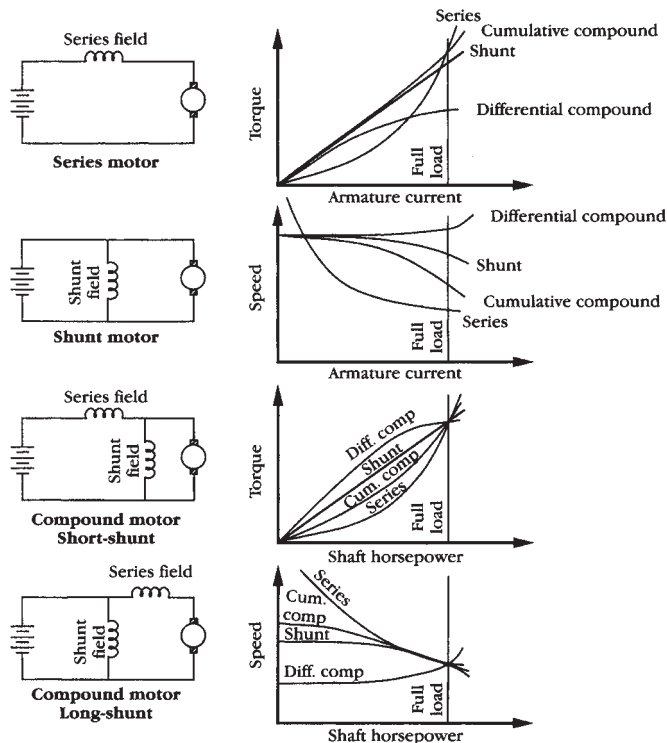

FIGURE 6-3 Summary of DC motor types—windings and characteristics.
The last three motor types are just variations of the first three, fabricated with different construction techniques. The compound motor is a combination of the series and shunt motors. For the first three motor types we'll look at the circuit showing how the motor circuit field windings are connected, and then look at the characteristics of the torque and speed versus armature current and shaft horsepower curves that describe their operation (Figure 6-3).
The most well-known of the DC motors, and the one which comes to mind for traction applications (like propelling EVs), is the series DC motor. It's so named because its field winding is connected in series with the armature (Figure 6-3). Because the same current
This shows that in a series motor, torque varies with the square of the current—a fact substantiated by Figure 6-3's actual torque versus armature current graph. The graph is actually a little misleading because at startup there is no counter electromotive force (EMF) to impede the flow of current in the armature of a series motor, and startup torque can be enormous; with no current limiting, you can start up at torque values far to the right of the full load line for a series motor. In actual use, the armature reaction and magnetic saturation of the series motor at high currents sets upper limits on both torque and current, although you might prefer to limit your circuit and components to far lower values. High starting torque makes series motors highly desirable for traction applications.
where R_a and R_f are the resistances of the armature and field, respectively. This shows that speed becomes very large as the current becomes small in a series motor—a fact substantiated by Figure 6-3's actual speed versus armature current graph. High rpms at no load is the series motor's Achilles heel. You need to make sure you are always in gear, have the clutch in, have a load attached, etc., because the series motor's tendency is to run away at no load. Just be aware of this and back off immediately if you hear a series motor rev up too fast.
The second most well-known of the DC motors is the shunt DC motor, so named because its field winding is connected in parallel with the armature (Figure 6-3). Because it doesn't have to handle the high motor armature currents, a shunt motor field coil is typically wound with many turns of fine gauge wire and has a much higher resistance than the armature.
This shows that, in a shunt motor, torque varies directly with the current, and the straight-line relationship shown in Figure 6-3 results. Although there is initially no counter emf to impede the flow of startup current in the armature of a shunt motor, the shunt motor's linear relationship is quickly established. As a result, the shunt motor does not produce nearly as much startup torque as the series motor. This translates to reduced acceleration performance for owners of shunt motor-powered EVs.
A compound DC motor is a combination of the series and shunt DC motors. The way its windings are connected, and whether they are connected to boost (assist) or buck (oppose) one another in action, determine its type. Its basic characterization comes from whether current flowing into the motor first encounters a series field coil—short-shunt compound motor or a parallel shunt field coil—long-shunt compound motor as shown in Figure 6-3. If, in either one of these configurations, the coil windings are hooked up to oppose one another in action, you have a differential compound motor. If the coil windings are hooked up to assist one another in action, you have a cumulative compound motor. The beauty of the compound motor is its ability to bring the best of both the series and the shunt DC motors to the user.
- **Torque**—The torque in a compound motor has to reflect the actions of both the series and the shunt field coils. Depending on whether you are hooked up in the differential or cumulative position, the shunt torque ϕ and the series torque ϕ either subtract to a difference figure or add together. The effect of these hookup arrangements on torque is illustrated in Figure 6-3, where the differential compound motor builds more slowly to a lower torque value than the shunt curve and the cumulative compound motor builds to a slightly higher torque value than the shunt curve at a slightly higher rate.
- **Speed**—Similar to torque, the speed action in a compound motor will also reflect the dual variables of series and shunt field coil action. Figure 6-3 shows the speed curves. One of the initial benefits of the compound configuration is that runaway conditions at low field current levels for the shunt motor and at lightly loaded levels for the series motor can be eliminated. While the differential compound configuration is of questionable value—its curve shows a tendency to runaway speeds at high armature current values—the cumulative compound motor appears to offer benefits to EV operation. You can tailor a cumulative compound motor to your EV needs by picking one whose series winding delivers good starting torque and whose shunt winding delivers lower current draw and regenerative braking capabilities once up to speed. When you look, you might find these characteristics already exist in an off-the-shelf model.